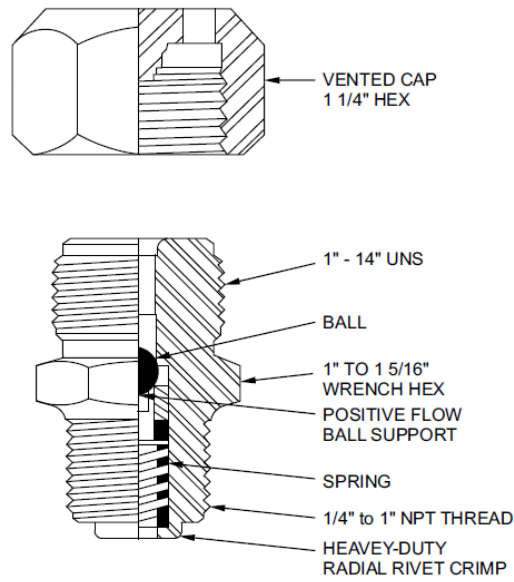

Figure 5 - Grease Fitting
1. Carefully remove the vented safety cap of the lower drain grease fitting, Figure 5. Contact your local Cameron Valves and Process Systems service representative for further assistance, if needed.